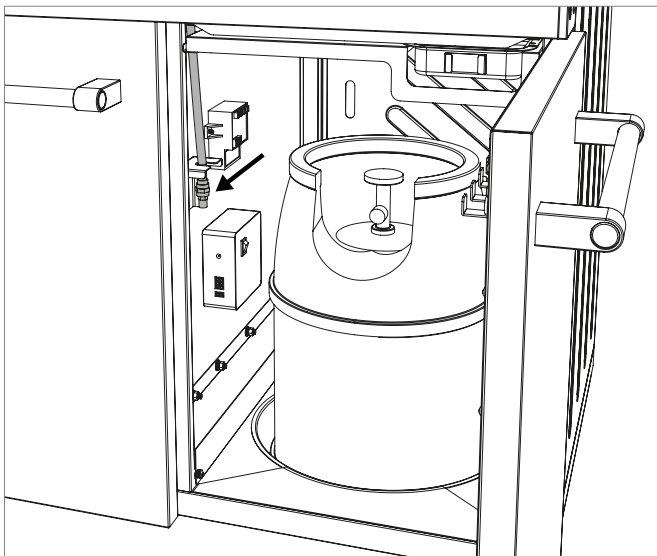

Fig. 2A
- Only gas bottles up to a maximum net weight of 11 kg may be placed on the base plate. Position the bottle in the space provided (**see Fig. 2A**).
2. Open the gas supply at the bottle and brush a soap solution (50% liquid soap and 50% water) onto all parts that carry gas (connection at the gas bottle / gas pressure regulator / gas hose / gas inlet / connection on the valve). You can also use a leak spray (**see Fig. 2A and 2B**).